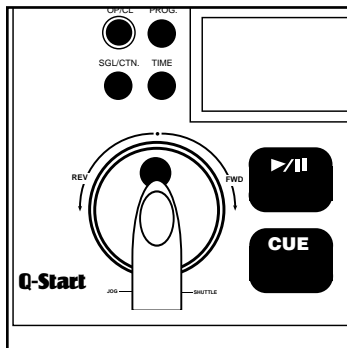
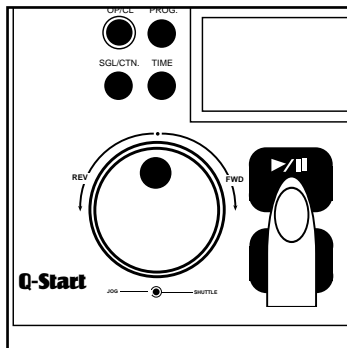
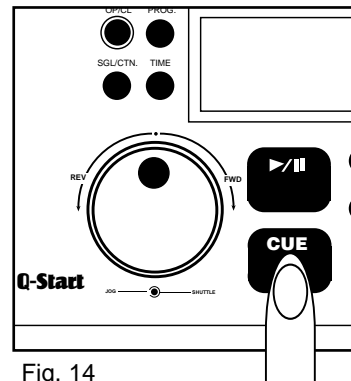

Fig. 12
Fig. 13
Fig. 14
- This feature allows you to scroll through a track to set a starting cue, sample, or loop point. To use the scroll function you must first be in Pause Mode. Use the **JOG WHEEL (13) (FIG. 12)** to find your desired starting point by turning the wheel in either a clockwise or counter-clockwise direction. When you use the jog wheel the monitor function allows you to here what is playing. Once you have set starting point pressing the **PLAY BUTTON (25) (FIG.13)** locks your cue point into memory. Pressing the **CUE BUTTON (15) (FIG.14)** will now return you to your set cue point.